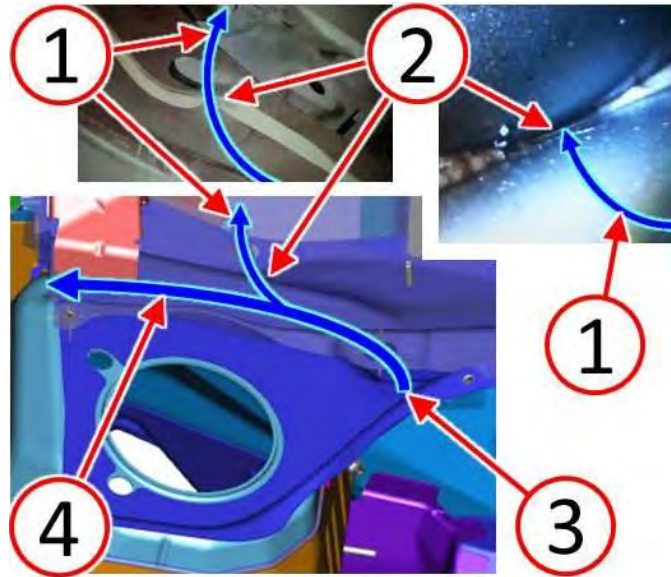

Fig. 9 Sealant Void And Water Path
NOTE: Images in (Fig. 9) show the proper water path (4) across the dash crossmember water management trough and also shows the location of the sealant void area (2) between the cowl plenum lower panel and dash crossmember which allows water (1) to enter the vehicle interior right front footwell.